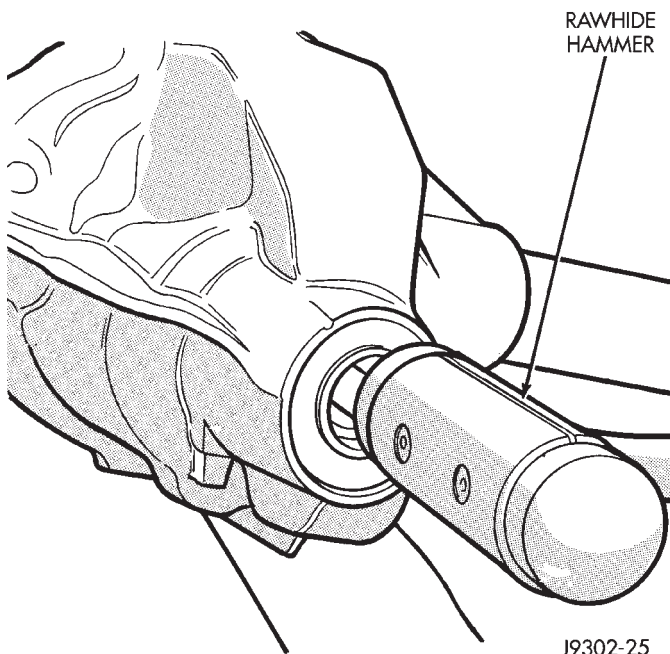

Fig. 12 Remove Pinion Gear
- (11) Remove the pinion gear from housing (Fig. 12). Catch the pinion with your hand to prevent it from falling and being damaged.
- (12) Remove collapsible spacer from pinion shaft.